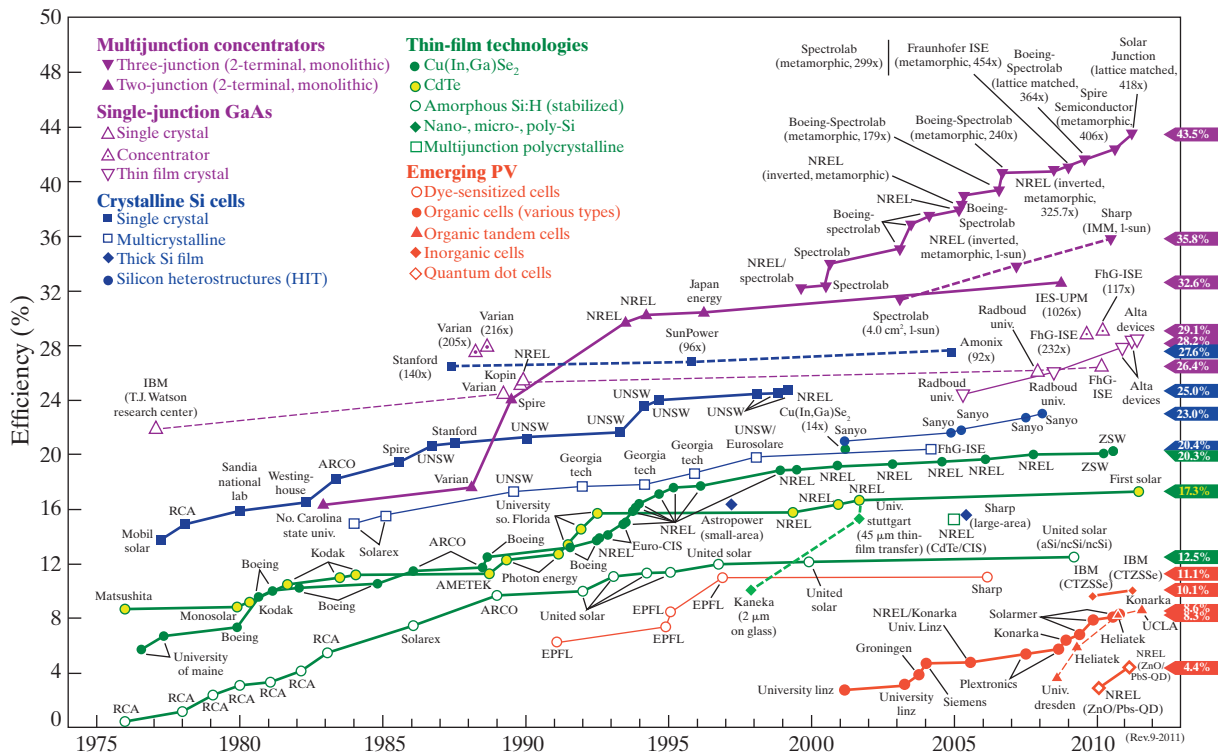

FIGURE 13.36
A **photovoltaic (PV) cell** is the backbone of any photovoltaic system. Photovoltaic cell materials include crystalline, polycrystalline, and amorphous silicon. The crystalline and polycrystalline silicon PV cells have high efficiencies; however, they are expensive to produce. On the other hand, the amorphous silicon cells have lower efficiencies, are less expensive to produce, and are easier to work with. Thin-film amorphous silicon solar cells can be affixed directly to a metal roof of a building. The efficiencies of various solar cells and the improvements that have been made since 1976 are shown in Figure 13.36.